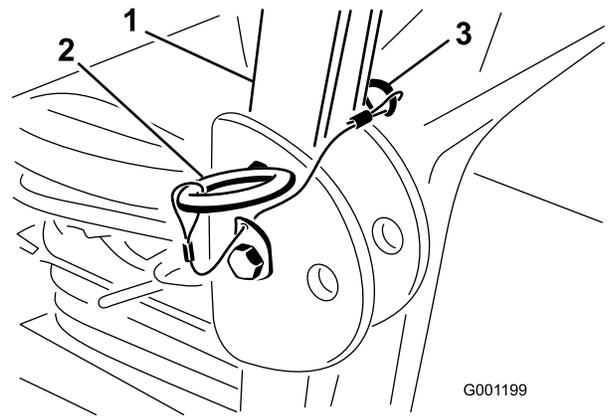

Figure 8
2. Raise the roll bar to the upright position and install the 2 pins and secure them with the hairpin cotters (Figure 8).
1. Remove the hairpin cotter pins and remove the 2 pins from the roll bar (Figure 8).